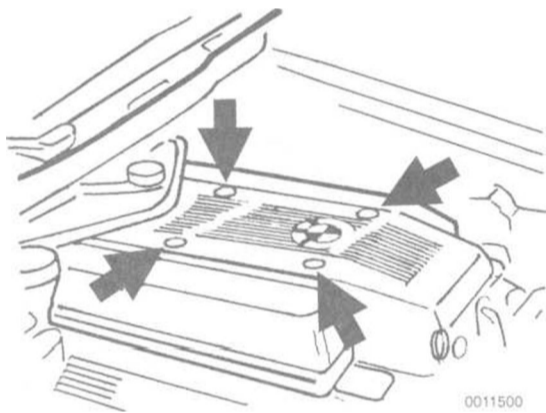

Fig. 11. Remove top engine cover by prying out plug- (arrows) and removing nuts from beneath plugs. Removal of plastic covers from cylinder head is similar.
- Pry out plugs from covers. Remove nuts and bolts from beneath plugs. Lift off covers, removing center cover first. See Fig. 11.